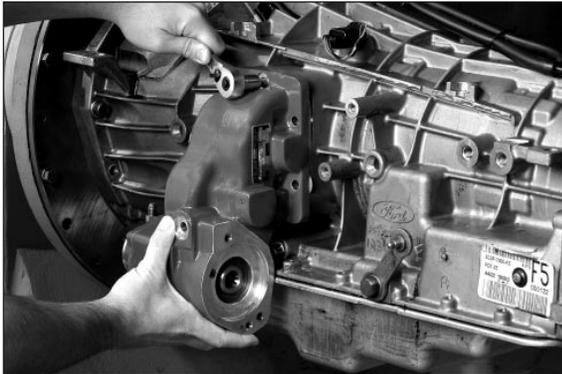

Figure 16
17. Attach the self locking nut to the shoulder stud. Do not tighten down at this time. **(Figure 16)**